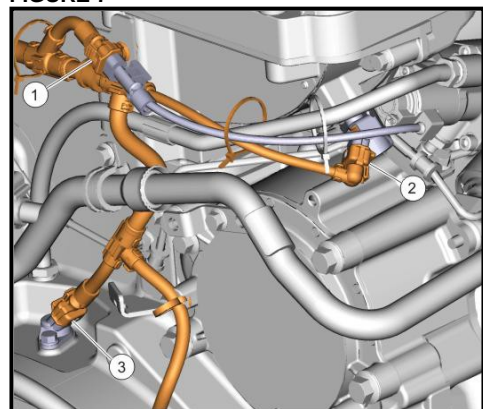

FIGURE 8
9. Disconnect the following rear engine harness connections: camshaft position sensor, crankshaft position sensor, and exhaust gas recirculation (EGR) valve (fig.8). Remove P-clamps.